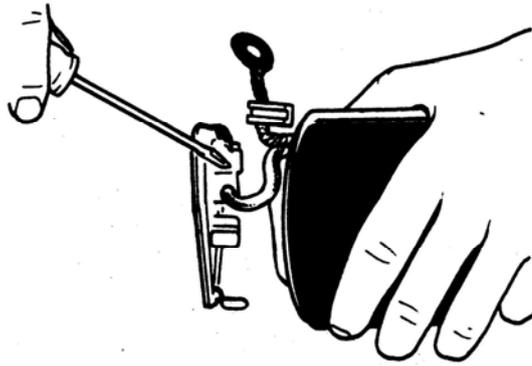

Fig.9-17
(8) Remove brushes from the holder (Fig. 9-17).